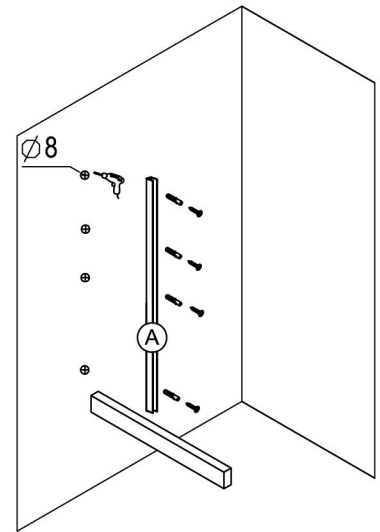

Fig.2
- (Fig.2) Mark drilling positions on the wall as per the size of your shower enclosure, referring to the fig.2 and mount aluminum channel (item A) using 4.8*50 (item D) screws with plastic anchor. (Pls attention the water